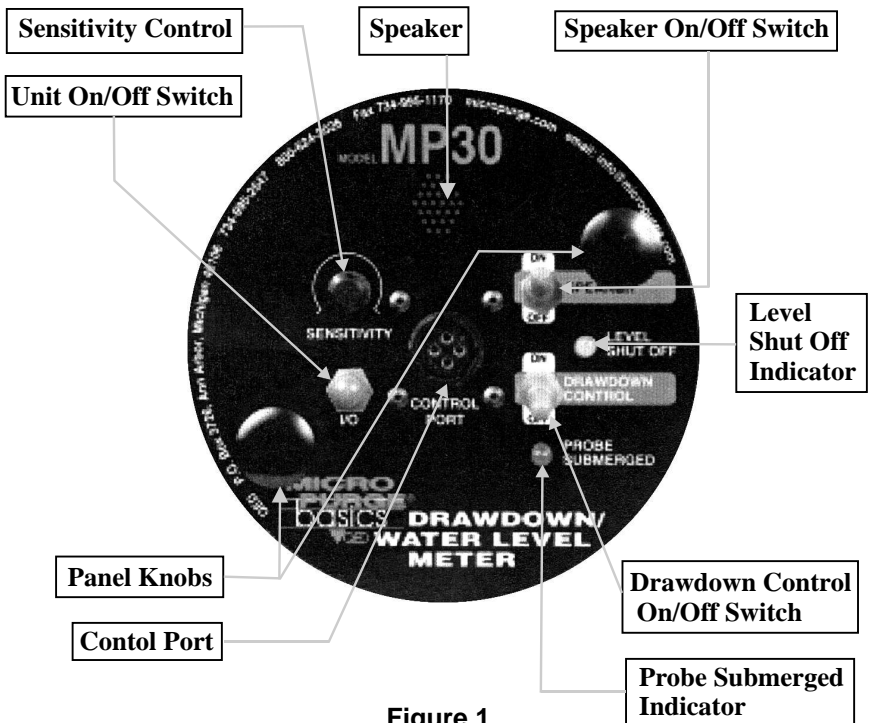

Figure 1
1. Determine static water level in conventional manner, with MP30 power switched "ON" and Drawdown Control switched to "OFF" (see Figure 1).
1. Check equipment and battery by pressing the "ON" button. The unit should sound if the speaker switch is not switched off. Also, the "LEVEL SHUT OFF" light should be on if the probe is dry and the "DRAWDOWN CONTROL" switch is in the "ON" position. If the unit does not respond, make sure the panel securing knobs are tight (see figure 1). If the unit still does not respond, replace the 9 volt battery, reached by removing the securing knobs and panel.